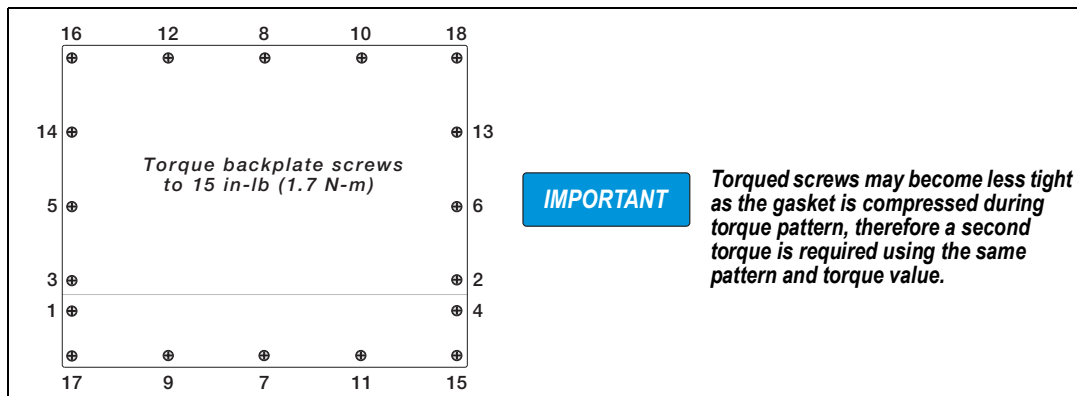

Figure 3-1. 920i Enclosure Backplate
3. Torque screws to 15 in-lb (1.7 N-m), using pattern shown in Figure 3-1, to prevent distorting the back plate gasket.
4. Re-install the backplate, see Figure 3-1 on page 10.